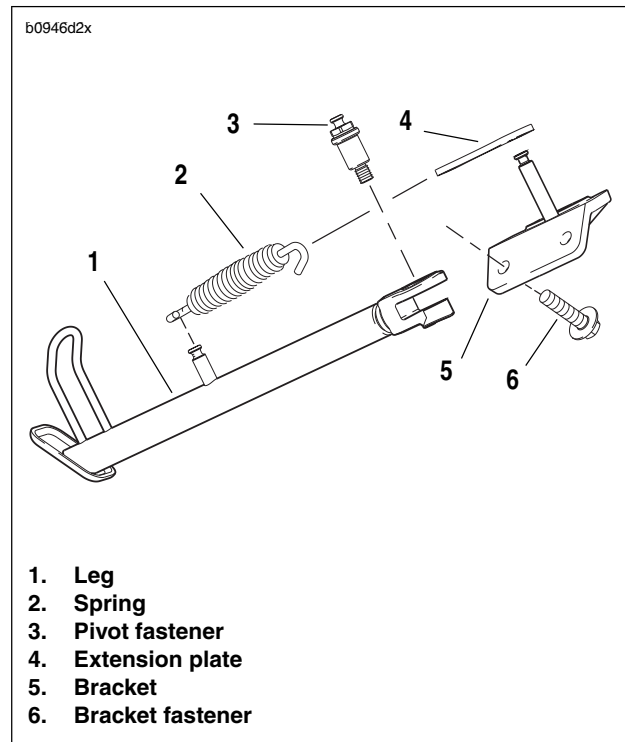

Figure 2-126. Sidestand Assembly
- c. See Figure 2-126. Install sidestand leg (1) and sidestand pivot bolt (3) tightening to 18-20 ft-lbs (24-27 Nm).
- e. Install spring extension plate (4) and sidestand spring (2) using SNAP-ON SPRING TOOL (Part No. HE-52B).